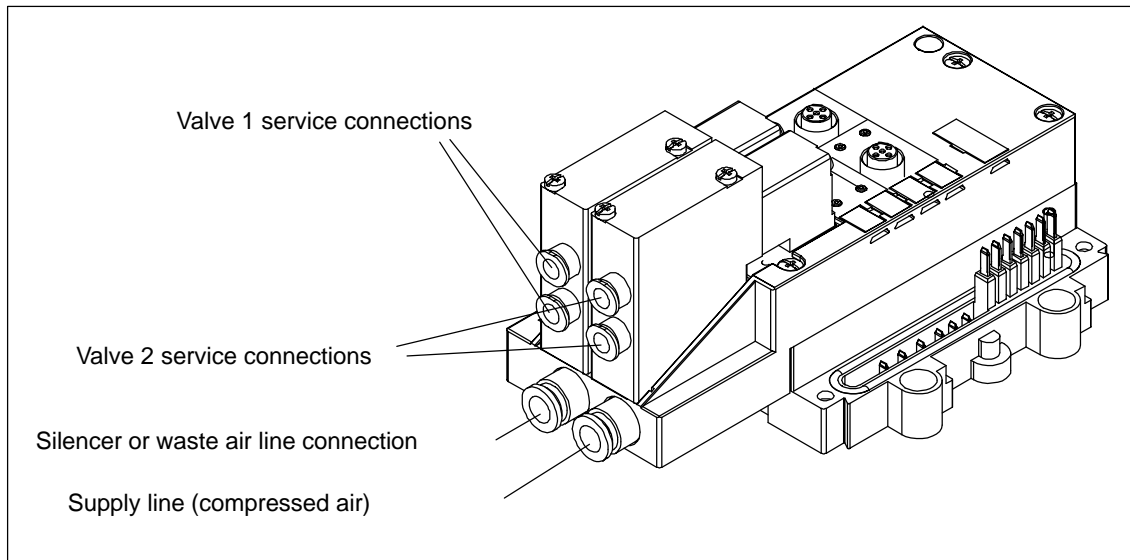

Figure 3-7 Supply and service lines on pneumatic module EM 148-P DI 4 x DC 24V/DO 2 x P
1. Use tubing exhibiting outside tolerance from FESTO for example, type PUN ... or type PAN Push the tubing having an outer diameter complying with Table 3-2 as far as the stop over the appropriate connection on the module (refer to Figure 3-7).
If you want to direct the waste air from the module into the environment, you can leave the waste air connection on the module open (refer to Figure 3-7). We recommend you to place a silencer on the waste air connection to reduce noise.